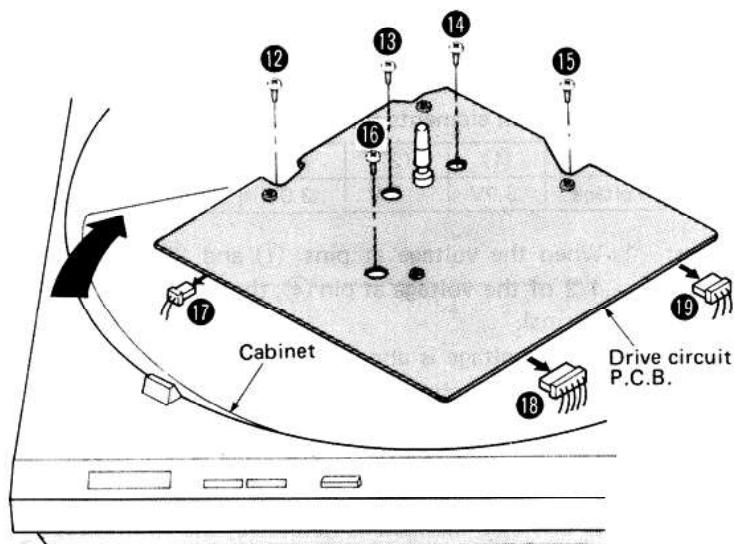

Fig. 5
2. Remove the 5 setscrews (Fig. 5 : ⑫ ~ ⑯) of stator frame.
3. Pull out the 3 connectors (Fig. 5 : ⑰ ~ ⑲) of drive circuit P.C.B.
4. Raise the left-hand side of cabinet (in the direction of the arrow of Fig. 5).